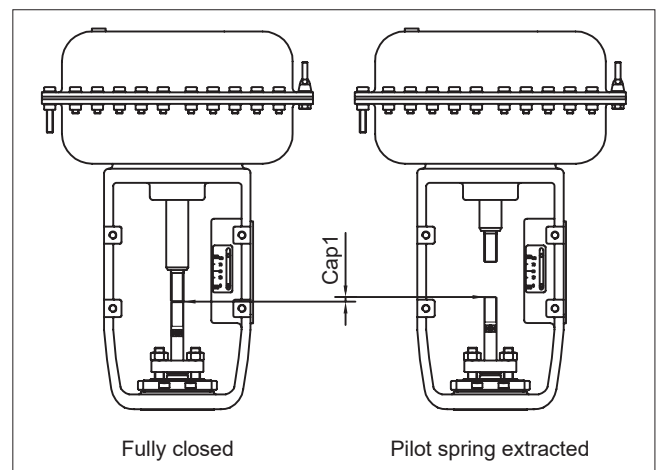

Fig. 15 Measurement of Gap 1
A. Actuator removal for Reverse <air to open, stem retract> actuator (Fig. 15)
B. Actuator removal for Direct <air to close, stem extend > actuator (Fig. 15)